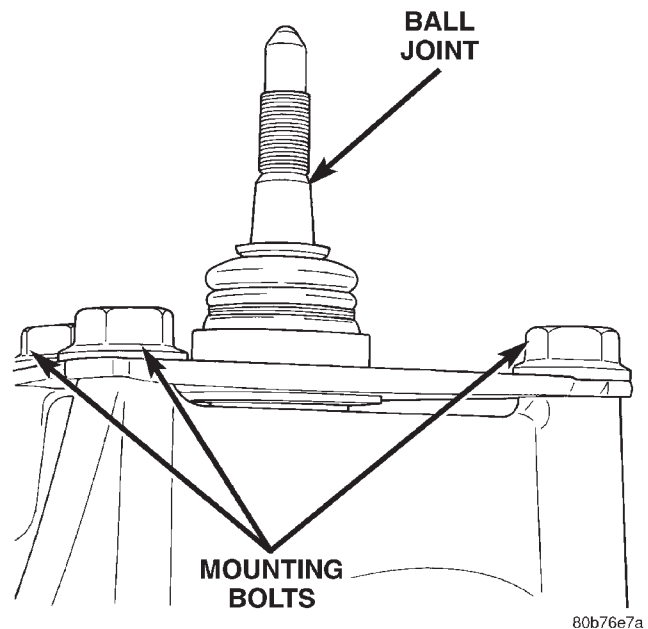

Fig. 13 Ball Joint Mounting Bolts
(5) Remove the ball joint mounting bolts (Fig. 13) from the differential housing.
(6) Remove the ball joint from the differential housing.